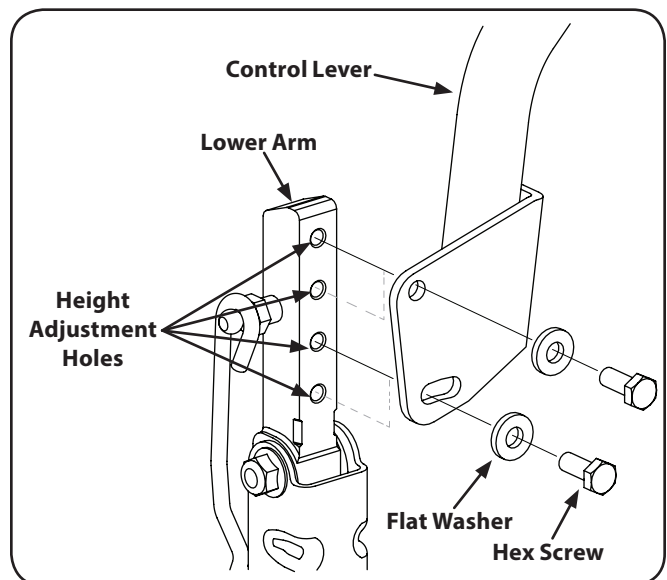

Figure 6-4
- While supporting the control lever to keep it from falling, remove the hex screw and flat washer from the bottom of the control lever and lower arm. Refer to Figure 6-4.
1. If not already loose, loosen the hex screw and rotate the control lever either forward or rearward to the desired position. See Figure 6-4.